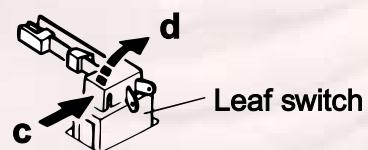

Fig.3
■ Leaf switch (Fig.3)
1. Press the leaf switch in the direction of the arrow c and then remove it in the direction of the arrow d referring to Fig.3.